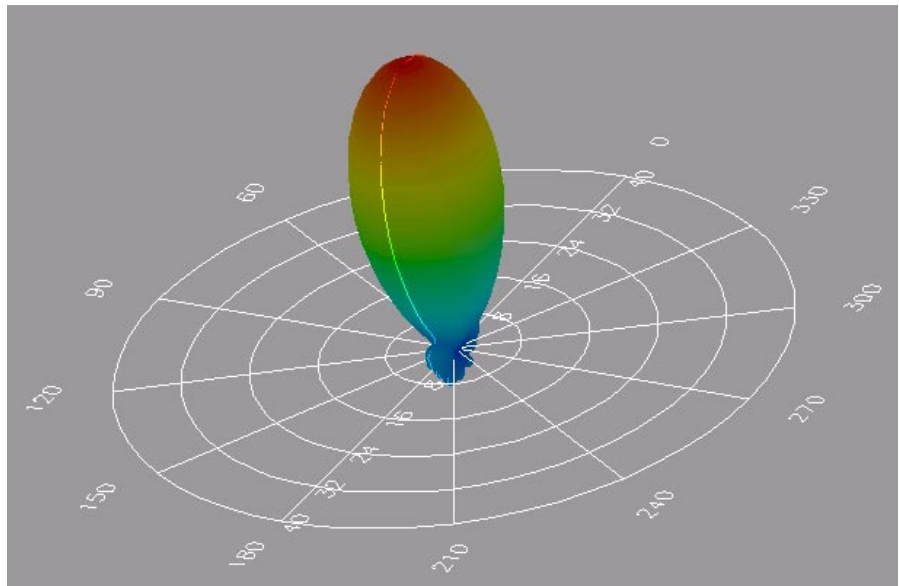

Figure 50 Horn Antenna Far-Field Plot
- 4 Select **View_1**. Leave **Normalize** and **Log Scale** disabled. Click **OK**. The system pauses, and the far-field plot is displayed, as in Figure 50. You can click **Display Options** to access the translucency scroll bar.